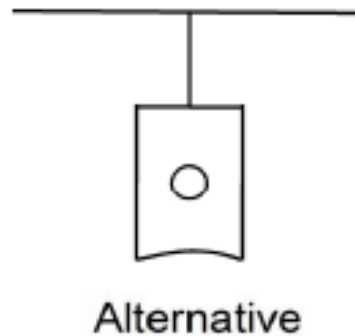

Figure 3b. Alternative Connection
2. If “V” connection is not possible, “T” connection is preferred as shown at Figure 3b. With this connection method, the input lead length should be kept as short and thick as possible and the wires should be bundled together.